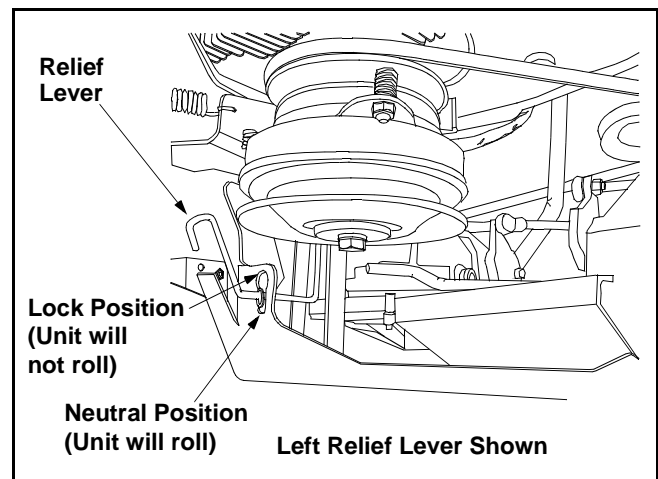

Figure 9
- Slide the levers into the slots to relieve the hydraulic pumps. See Figure 9.